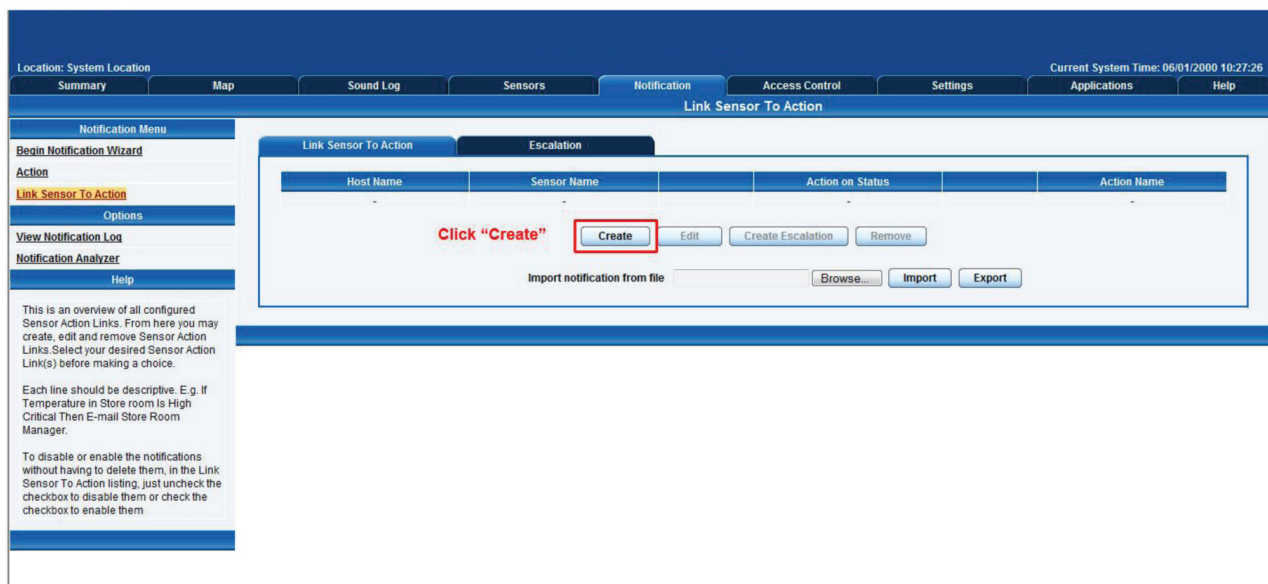

Figure 4-7. Notifications tab.
4. Once we have created the parameters for the SNMP trap, we need to make it active. To do this, go back to the “Notifications” tab. (It should look like the screen shown in Figure 4-7.) Click “Create.”